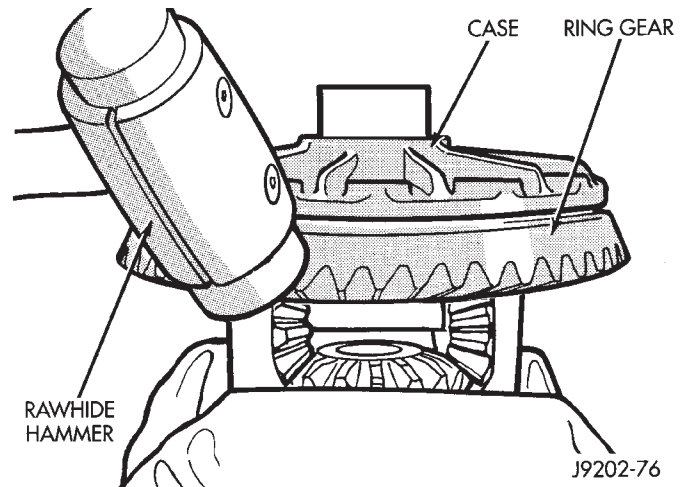

Fig. 43 Ring Gear Removal
(1) Remove differential from axle housing.
(2) Place differential case in a suitable vise with soft metal jaw protectors. (Fig. 43)
(3) Remove bolts holding ring gear to differential case.
(4) Using a soft hammer, drive ring gear from differential case (Fig. 43).